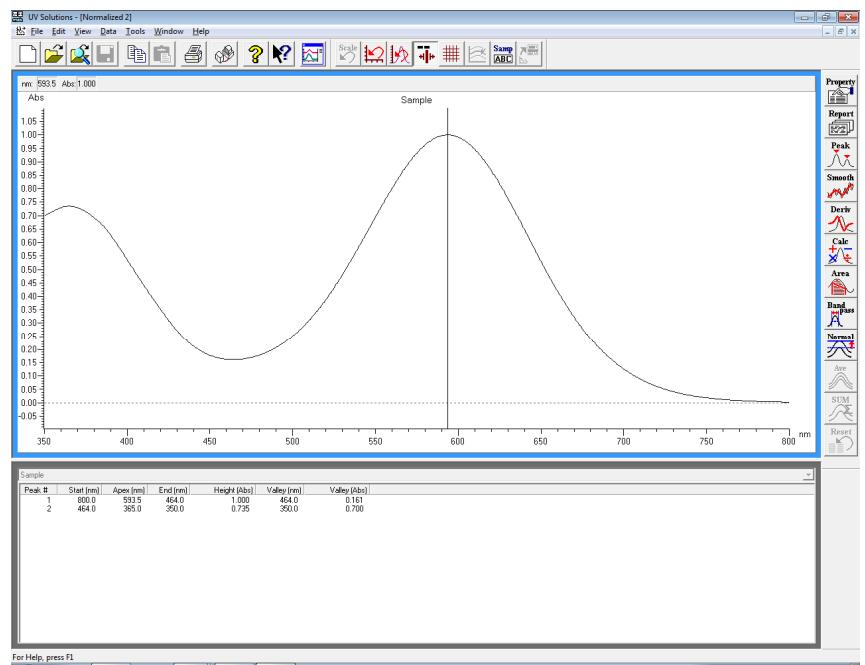

Fig. 5-87
- (3) The standardized spectrum is displayed. (Refer to Fig. 5-87.)